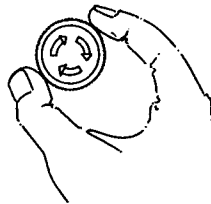

Figure 12
- Turn red emergency stop button clockwise (figure 12)